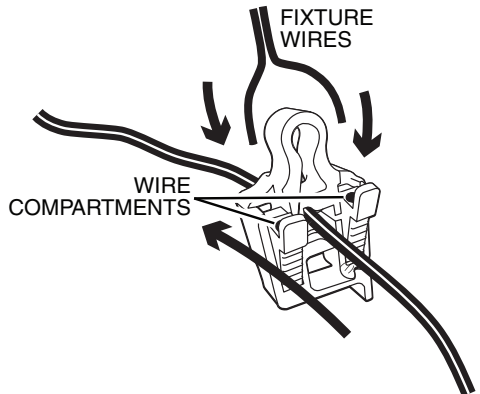

Fig. 11
4. Locate end of fixture wires. (Fig. 11)